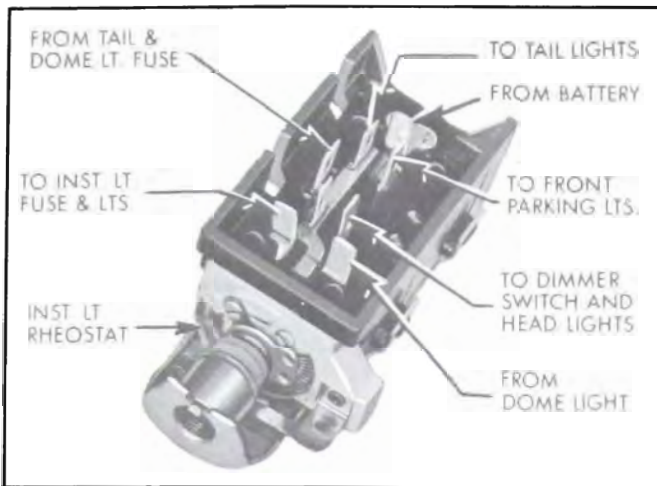

Figure 10-43—Light Switch
2. With switch on, connect the headlight terminal of lighting switch and the negative post of battery. See Figure 10-43.